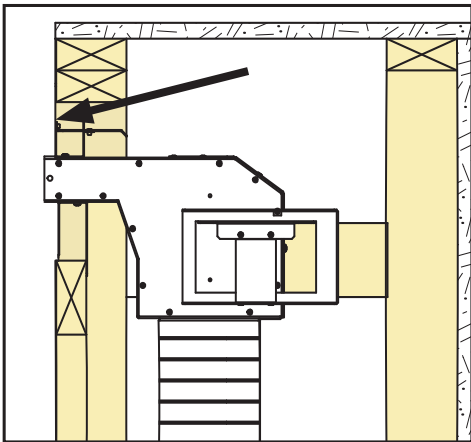

Figure 24: CSS - Top Standoff
Step 3: Insert the assembled CSS into the framed rough opening by rotating it down slightly to allow the outlet and standoffs to pass through. When installed correctly the front flange of the top standoff should be up against the front face of the top stud (Figure 24).
Step 4: Confirm the CSS is centered within the rough opening and secure in place using screws or nails through the four (4) holes along the top edge of the top standoff.